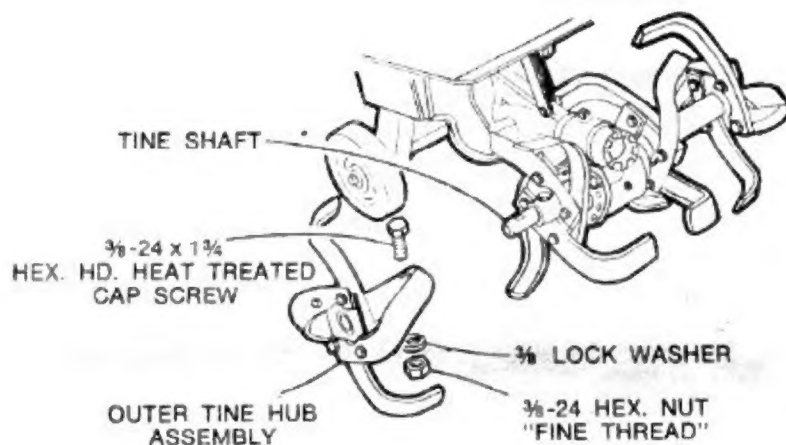

FIG. 5
6. Reposition the outer tine hub assemblies to the proper end of tine shaft, Fig. 5. **Note:** For shipping purposes, this tiller was shipped with the outer tine hub assemblies on the opposite end of the shaft.